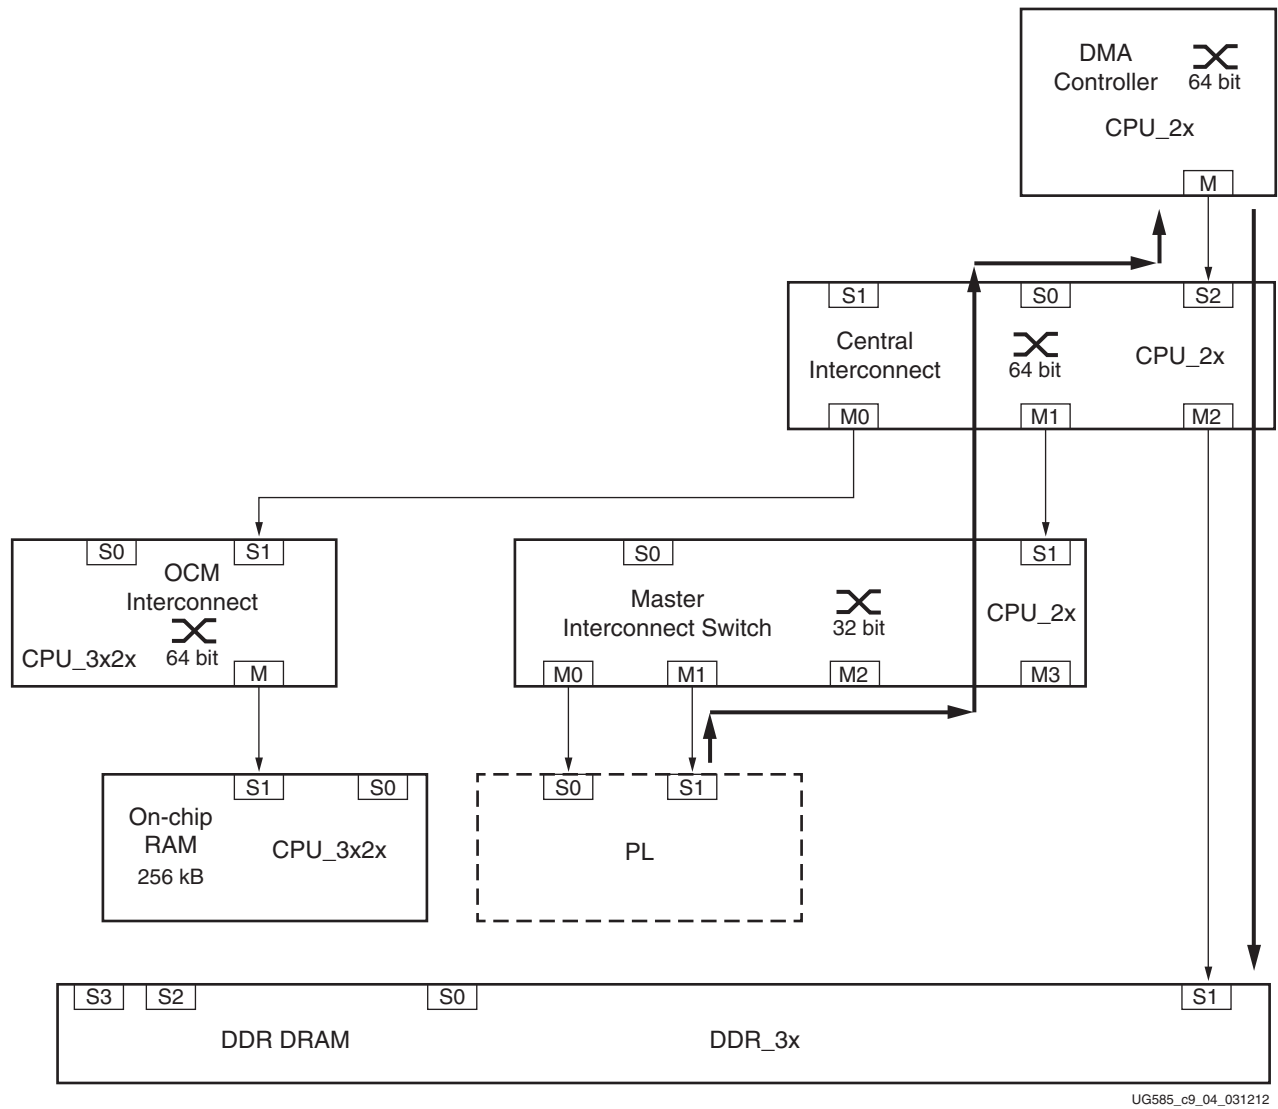

Figure 9-4: Example of Dataflow During a PL Peripheral to DDR Transfer
- Memory to/from PL transaction. On top of the AXI interface, one of the four peripheral request interfaces controls the data flow. Figure 9-4 shows the data flow from a peripheral in the PL to the DDR. The peripheral request interface is not shown in the figure because it is only used to control the flow and relies on the AXI interface to move data.